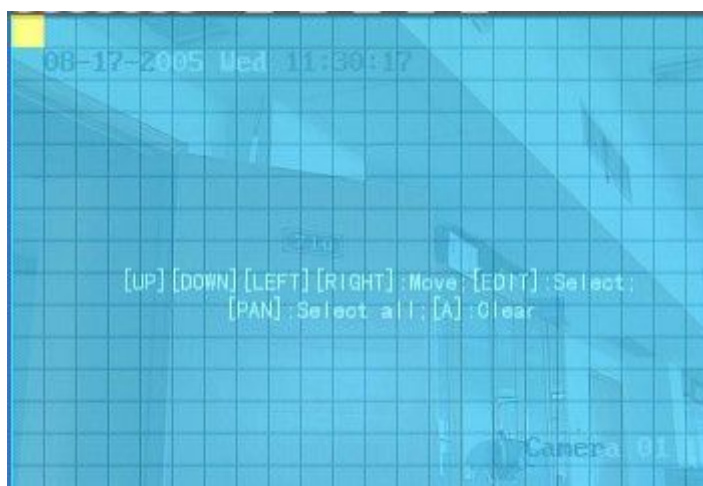

Fig 5.17 Motion area setup
**Step 4: Motion area setup:** You must define motion areas so that DVR will respond when there is motion detected in those areas. Move “Active Frame” to “Area” button on the right side of the sensitivity list box, press the **【ENTER】** key, you will enter into the “Motion Area Setup” interface shown as fig 5.17:.